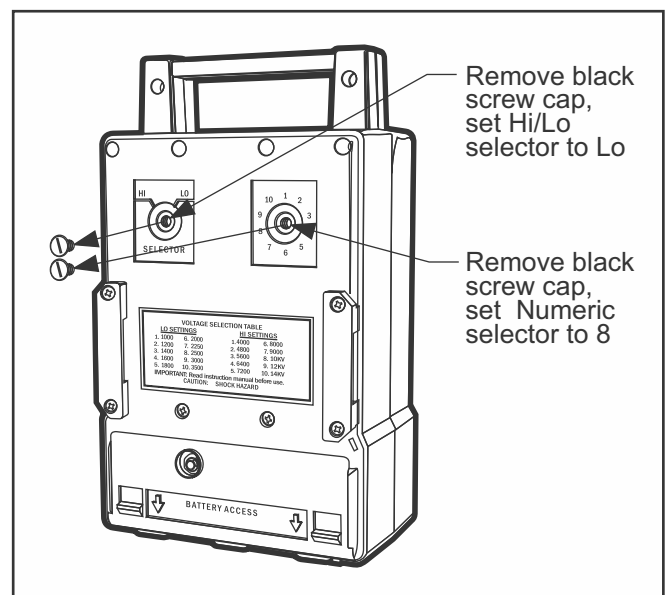

Fig. 56: Rear View of Spark Tester
1. Remove Manual Actuator: For all sizes of dampers, reference the appropriate illustration to remove the manual actuator, mounting plate and actuator shaft. (Fig. 56, 57, 58, 59) Set these items aside.